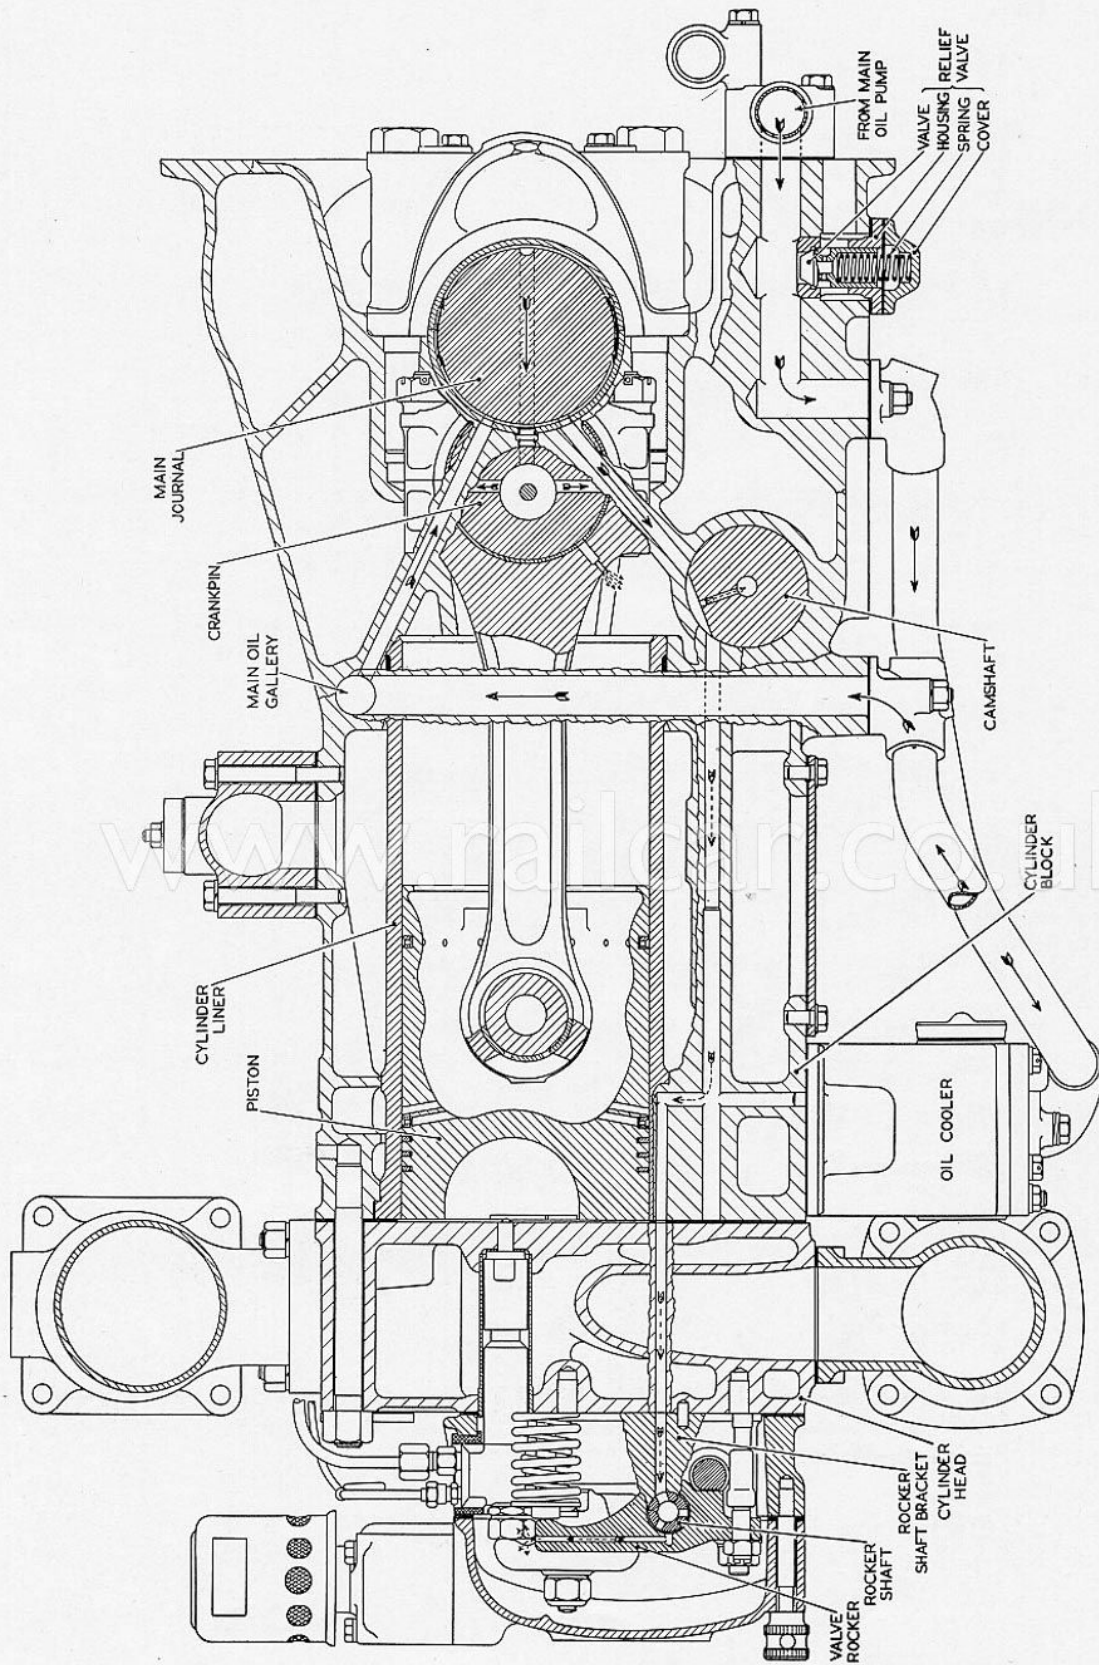
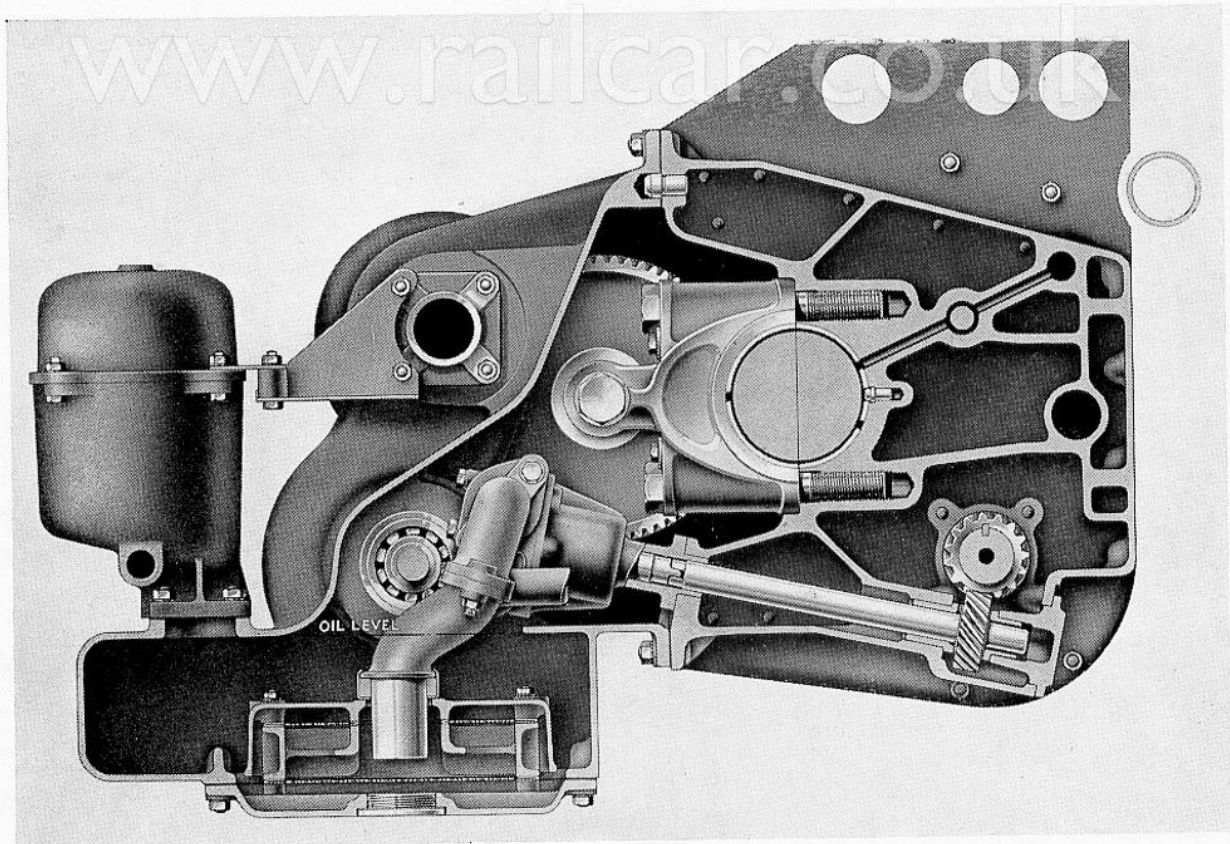
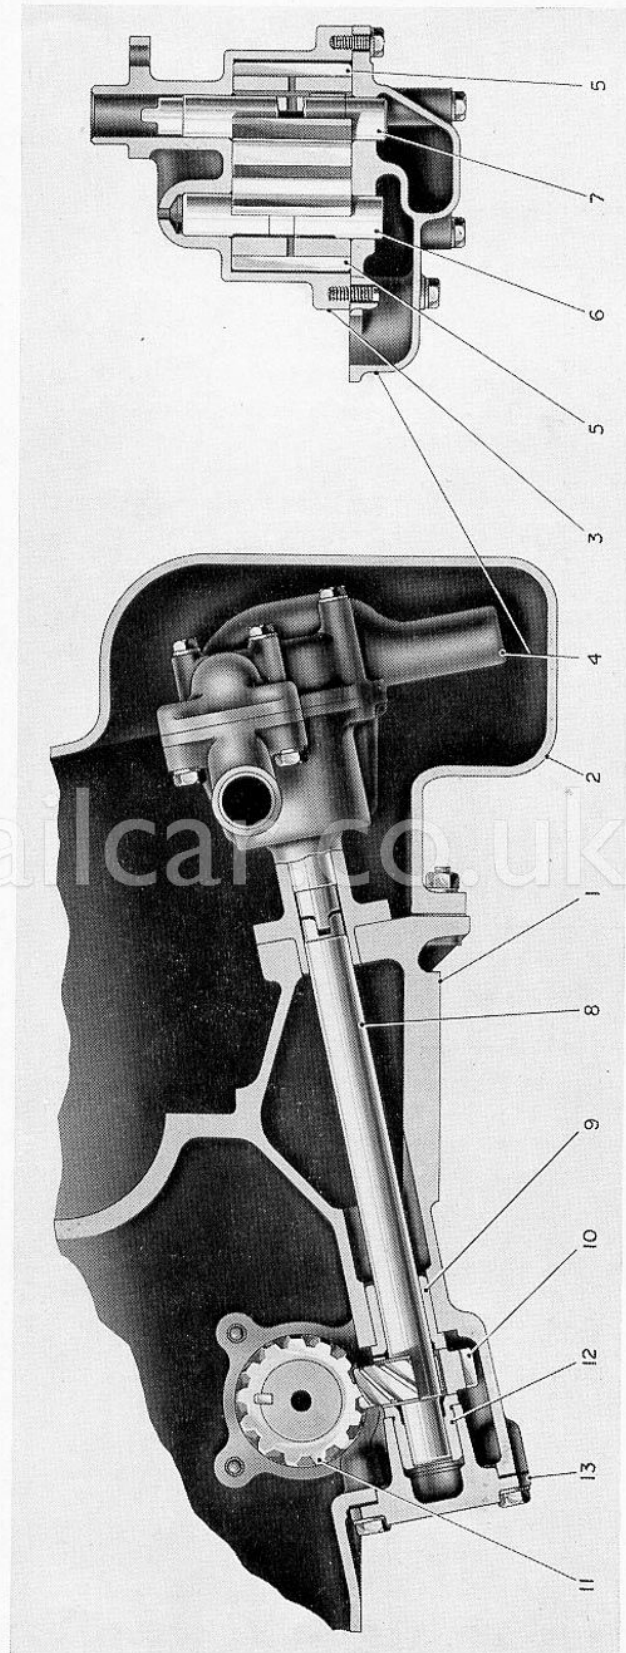
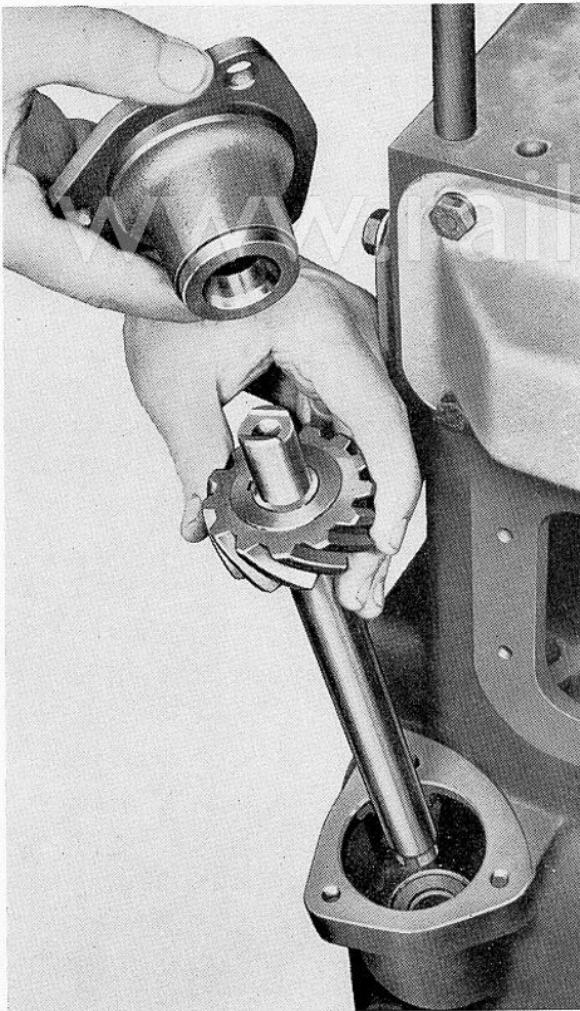

FIG. 1. TYPICAL CROSS SECTION OF ENGINE SHOWING OIL CIRCULATION
FIG. 2. VIEW THROUGH HORIZONTAL ENGINE SHOWING SUMP FILTER, SUCTION PIPE AND MAIN OIL PUMP DRIVE
FIG. 6. SCAVENGE OIL PUMP AND DRIVE
FIG. 7. FITTING OIL PUMP GEAR AND THRUST HOUSING
The main oil pump (Fig. 2) draws its supply through a gauze strainer in the sump. On some engines a scavenge pump (Fig. 6) of similar design to the main pump is fitted at the other end of the sump to prevent oil starvation of the bearings when the unit is operating on steep gradients, this pump returns to the main sump any oil collecting in a scavenge sump provided for this purpose (Fig. 1), thereby keeping the gauze strainer covered at all times.
From the main pump, oil is delivered under pressure through a passage in the crankcase, past the relief valve to a transverse passage up through the engine block into the main oil gallery running the length of the engine (Fig. 1). On some engines an integral water-jacketed oil cooler is fitted on the side of the engine block, and oil after passing the oil relief valve, passes through this oil cooler and is then piped back to the transverse passage in the engine block.
Second drillings from the centre and intermediate main bearings feed the corresponding camshaft bearings, and also the front and rear camshaft bearings through central oilways in the shaft. Tappings from No. 2 and 5 camshaft bearings provide intermittent feed via oil ways drilled in the cylinder block and heads into the centre rocker shaft support brackets, and thence through the hollow rocker shafts to holes at the individual rockers (Fig. 1). Holes drilled in the rocker shafts and in each rocker lever carries a supply of oil to lubricate the contact surfaces between the valve cap and the rocker lever. The used oil lubricates the push rods in returning to the sump for re-circulation.
Referring to Fig. 6 the pump body (3) houses two meshing spur gears, one running freely on the idler spindle (6) and the other keyed to the oil pump spindle
Access to the oil pump drives (Figs. 2 and 5) is obtained by removing the thrust covers on the side of the crankcase. The driving spindles can then be withdrawn with the fingers (Fig. 7). It is important to note, that, if the bush in the crankcase is being renewed, the oil jet hole must point towards the camshaft gear. The slot in the end of the driving spindle must engage freely with the tongue of the oil pump spindle.